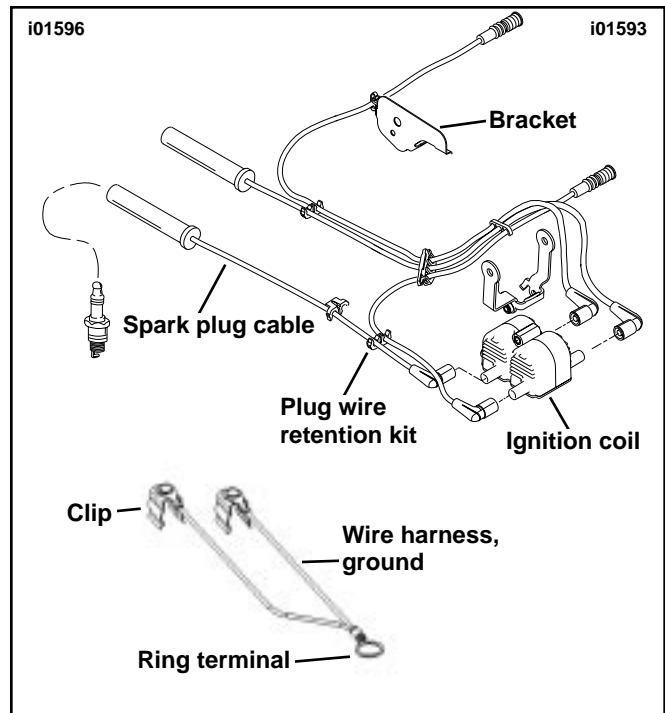

Figure 5. XL1200S Spark Plug Cables
5. See Figure 5. Place the clips of the ground wire harness over the end ferrules of the plug wires.